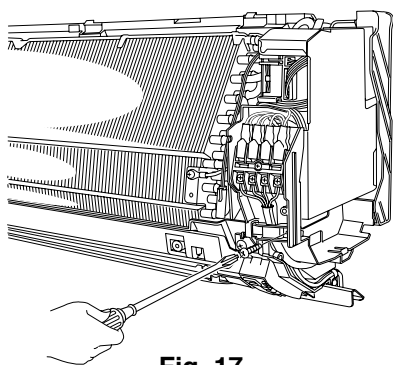

Fig. 17
- (1) Disconnect the cable clamp. (Fig.17)